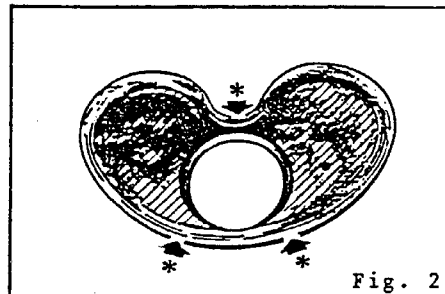

Fig. 2
4. Pump the remaining concrete out of the rock housing, then direct a water jet into the hopper, as shown in figure 2. The concrete pump will suck the water and flush the material cylinders.
NOTE: Outside of the area that contacts the kidney seal, you may detect scores that are due to concrete particles penetrating between the rock valve and the kidney plate. (See figure 2 and figure 3) THESE SCORES DO NOT MATTER IN THE LEAST!